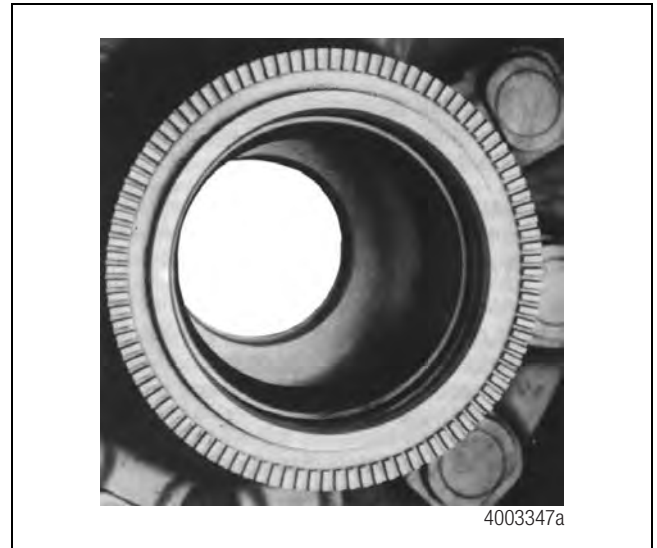

Figure 12.2
- **Tooth Wheel** — A 100 tooth wheel mounted to the hub or spoke wheel. Working with the sensor, it provides an AC voltage that represents wheel speed. Figure 12.2.